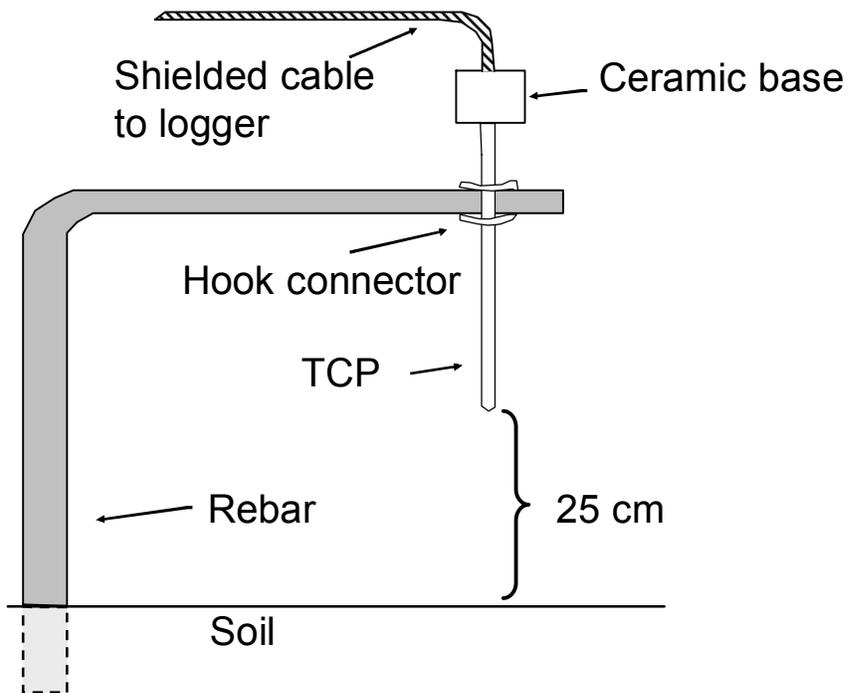

Figure 2. Setup of a single TCP
- 2) Use a hook connector to position the probe so that its tip points downward and is about 25-cm from the mineral soil (fig. 2).